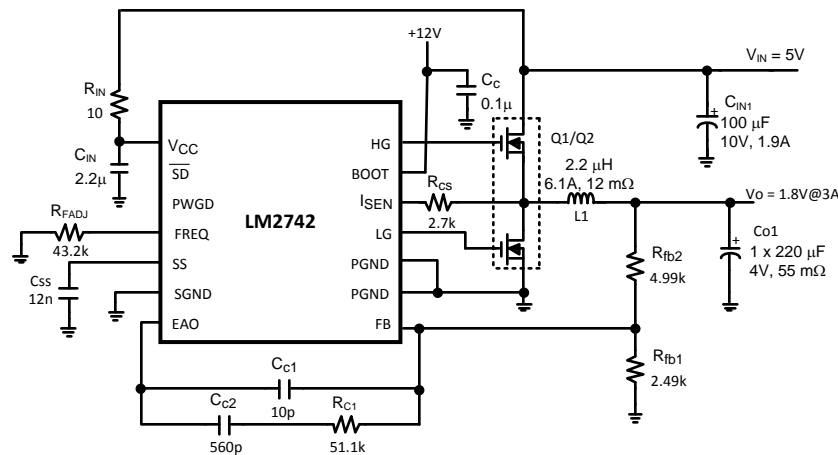

Figure 33. 5V to 1.8V, 3A, 600kHz
The example circuit of Figure 33 has been designed for minimum component count and overall solution size. A switching frequency of 600kHz allows the use of small input/output capacitors and a small inductor. The availability of separate 5V and 12V supplies (such as those available from desk-top computer supplies) and the low current further reduce component count. Using the 12V supply to power the MOSFET drivers eliminates the bootstrap diode, D1. At low currents, smaller FETs or dual FETs are often the most efficient solutions. Here, the Si4826DY, an asymmetric dual FET in an SO-8 package, yields 92% efficiency at a load of 2A.
**Table 4. Bill of Materials for Circuit of Figure 33**